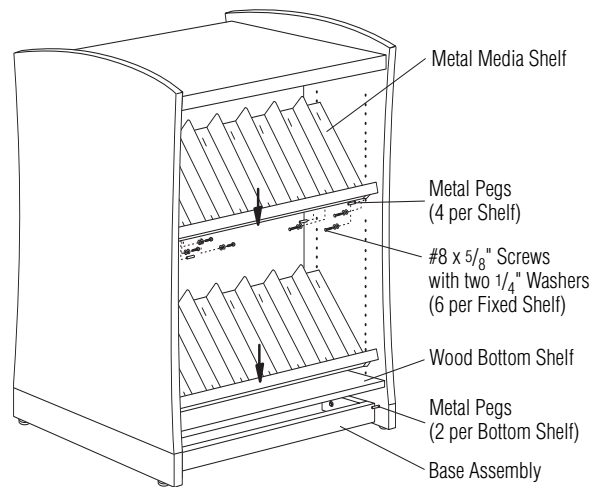

Figure 7
11. Wood Bottom Shelf. Insert (4) metal pegs into pre-drilled holes just above the base assembly. Lay bottom shelf with routed side down and align onto metal pegs (Figure 7). Repeat for each unit.
12. Metal media shelves. Insert (2) metal pegs into pre-drilled holes at front sides of end/adder panels at desired shelf heights. At back side of end/adder panels, insert (2) metal pegs five holes up from the placement of the front metal pegs. Set each metal media shelf onto the pegs (Figure 7).